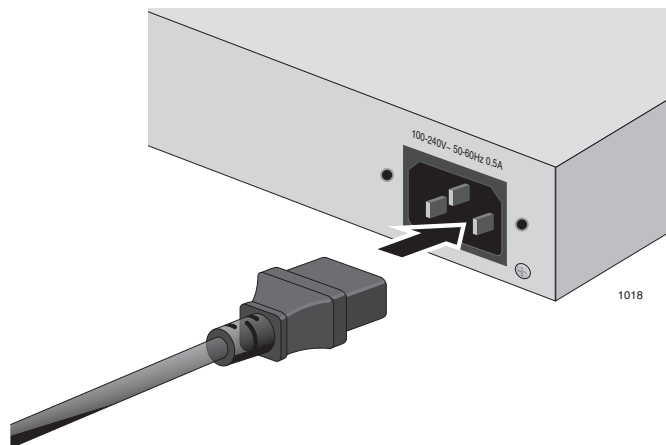

Figure 11. Connecting the AC Power Connector to Switch
1. Apply AC power to the switch by plugging the power cord into the AC power connector on the back panel of the unit, as shown in Figure 11.